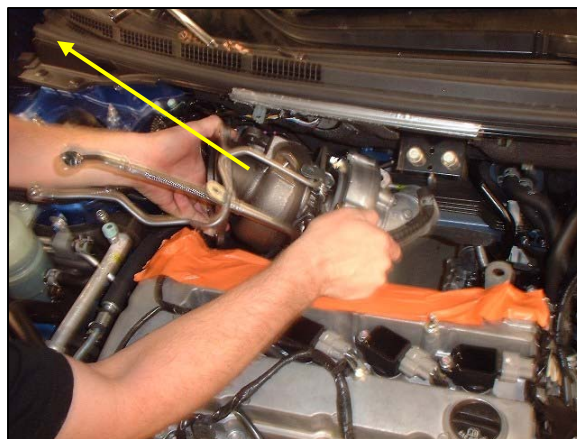

Fig. 25
28. Pull the turbocharger up and out of the engine compartment from the top side. It may be necessary to tilt the turbocharger on end and rotate it to allow removal. The space between the cowl/firewall and the valve cover is fairly tight but the turbocharger will fit. Thick tape can be used to protect the valve cover and cowl if desired. Be careful not to damage any oil lines, water lines or other components under the hood. See figure 25.